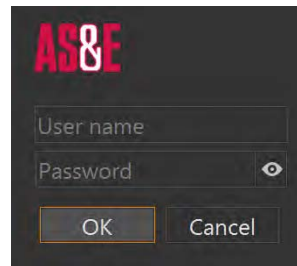

Figure 10-1: Main login screen for opening the ASEInspection Software
Typical login to ASEInspection™ Software requires a preassigned user name and password. When the tablet powers-up, the Login screen is displayed, shown in Figure 10-1.
3. The Login screen (see Figure 10-1) is displayed. The next user should sign in, as described in Section 10.1.